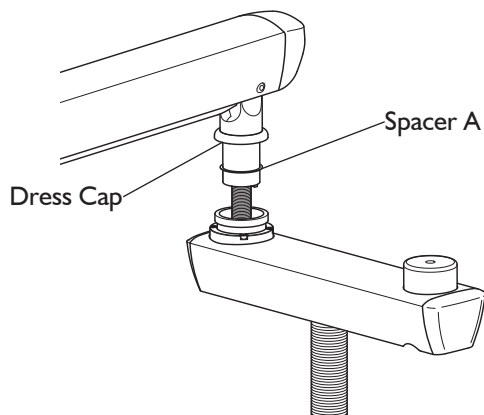
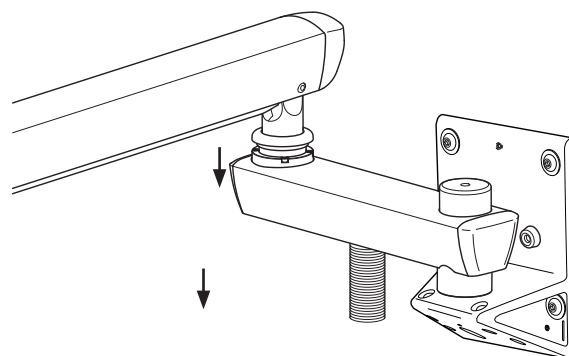

Figure 4
Figure 5
1. Route the umbilical tubing from the Flex Arm through Spacer A (provided in installation kit), the Rigid Arm's dress cap and finally the Rigid Arm, as shown in Figure 4. Then, being careful not to pinch the umbilical tubing, drop the Flex Arm's rear knuckle into the Rigid Arm, as shown in Figure 5, making sure that it is fully seated.